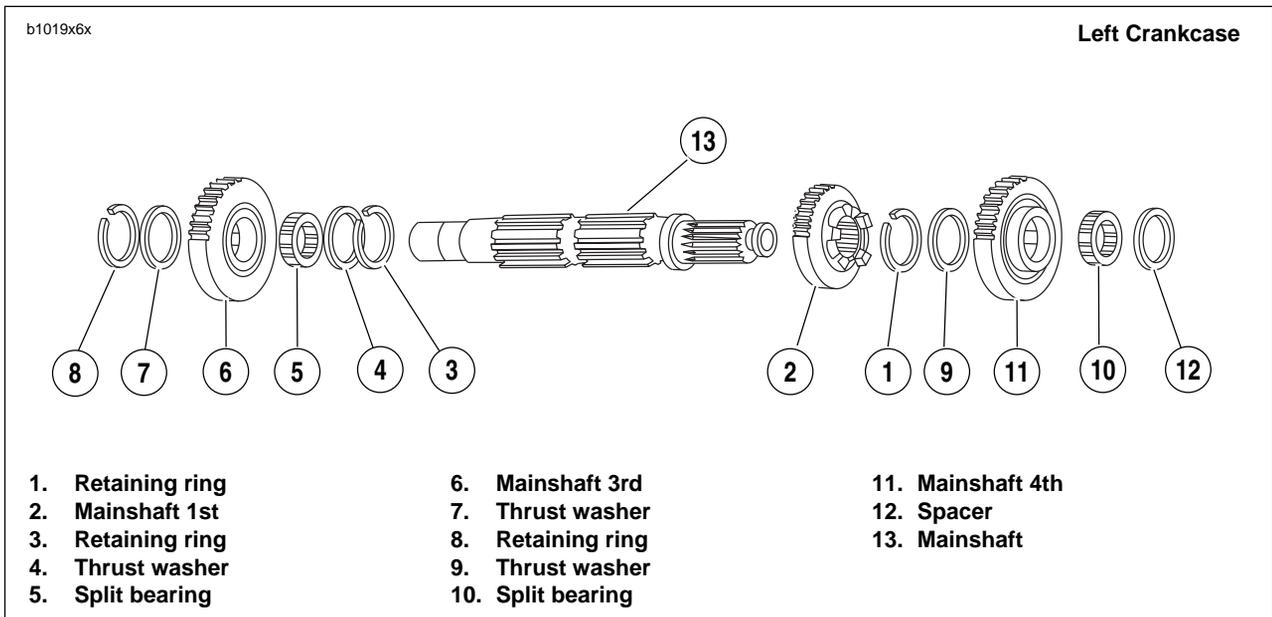

Figure 6-67. Transmission Mainshaft Assembly/Reassembly
1. See Figure 6-67. Install **new** retaining ring (1) onto mainshaft in the first ring groove from the threaded end of the mainshaft.
2. Slide mainshaft 1st gear (2), identified by two grooves in gear teeth, onto mainshaft with the fork groove facing mainshaft 4th gear (10).
3. See Figure 6-67. Install **new** retaining ring (3).
- a. Install thrust washer (4) onto mainshaft.
- b. Install split bearing (5) onto mainshaft.
- c. Install mainshaft 3rd gear (6) onto shaft over bearing (5). 3rd gear is installed with shifting lugs away from 1st gear mainshaft.